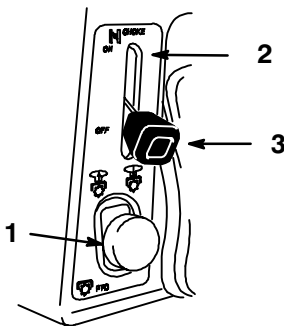

Figure 3
3. Push the PTO (power take off) to "OFF" (Fig. 3).
4. Move the choke lever to "ON" (Fig. 3).
- Push the PTO (power take off) to “OFF” (Fig. 3).